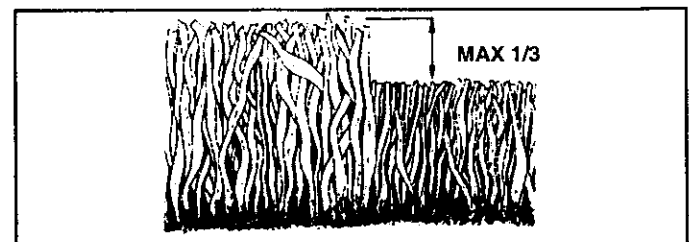

FIG. 11
- For best results, adjust the mower cutting height so that the mower cuts off only the top one-third of the grass blades (See Fig. 11). For extremely heavy mulching, reduce your width of cut and mow slowly.